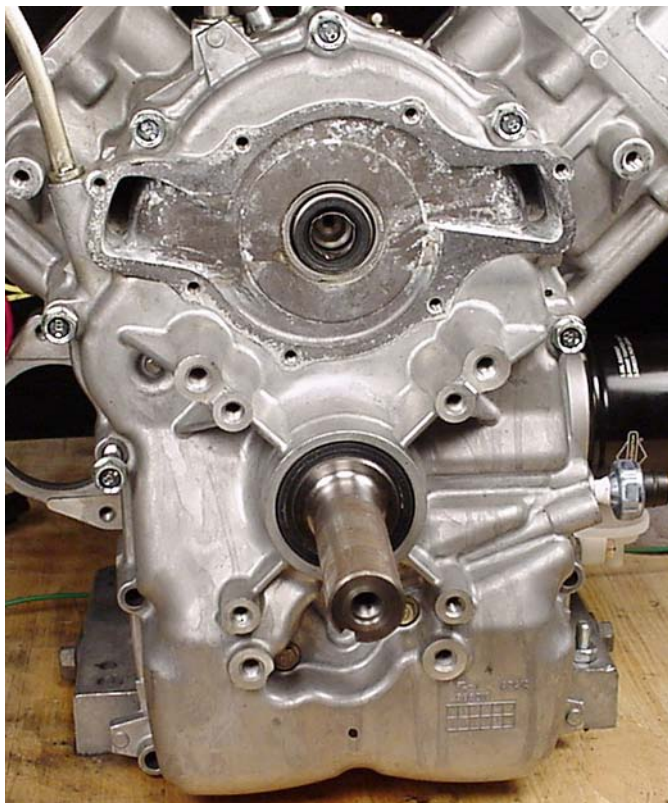

Fig. 58
3. Remove crankcase cover, Fig. 58.